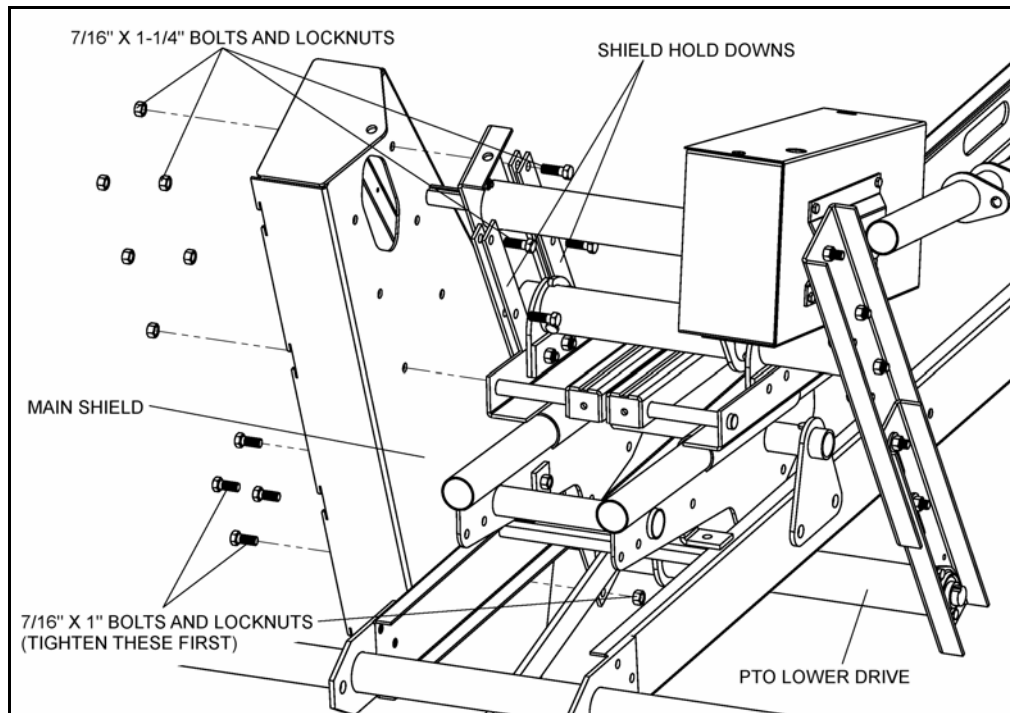

Figure 3.46
10. Mount main shield on to PTO lower drive and secure with four 7/16" x 1" bolts and locknuts (see Figure 3.46). Tighten bolts fully.
11. Pass six 7/16" x 1-1/4" bolts through shield hold downs and shield as shown in Figure 3.46. Secure with six 7/16" locknuts. Do not tighten bolts fully; joint must be able to slide.